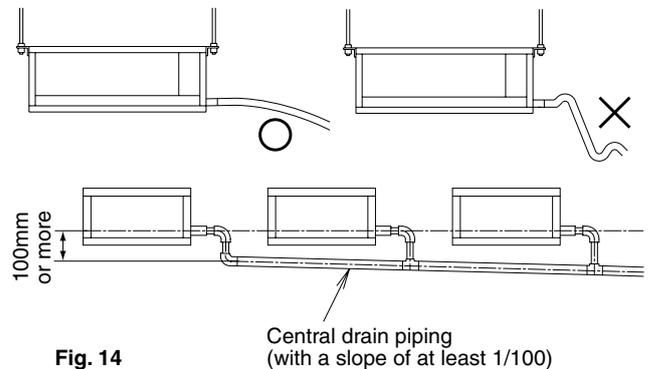

Fig. 14
- Keep the drain piping short and sloping downwards at a gradient of at least 1/100 to prevent air pockets from forming. (Refer to Fig. 14)
- If you are using central drain piping, follow the procedure outlined in the figure 14.